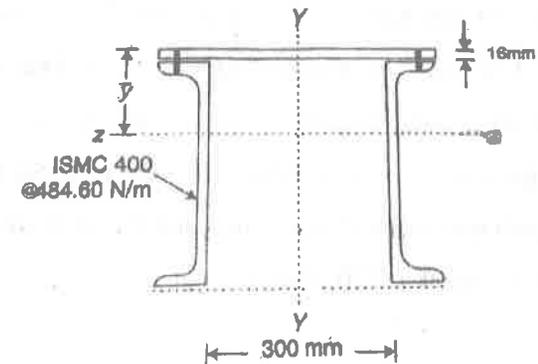

Fig. 5
- (b) Calculate the design compressive load which the member shown in Fig. 5 can support, if the member is of 5.5 m effective length. Use steel of grade Fe 410. 8